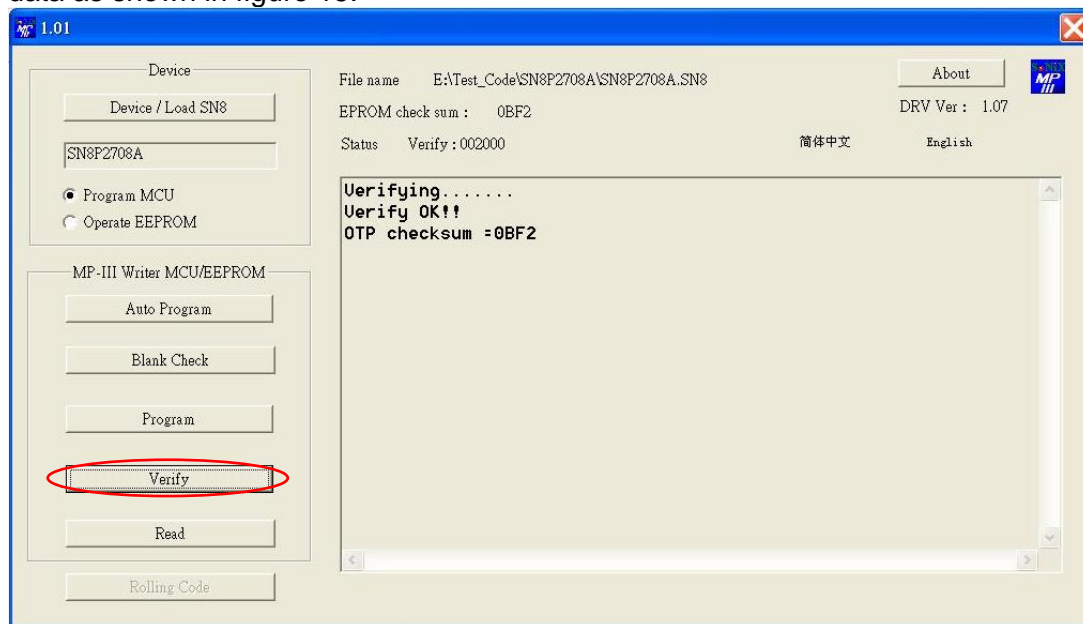
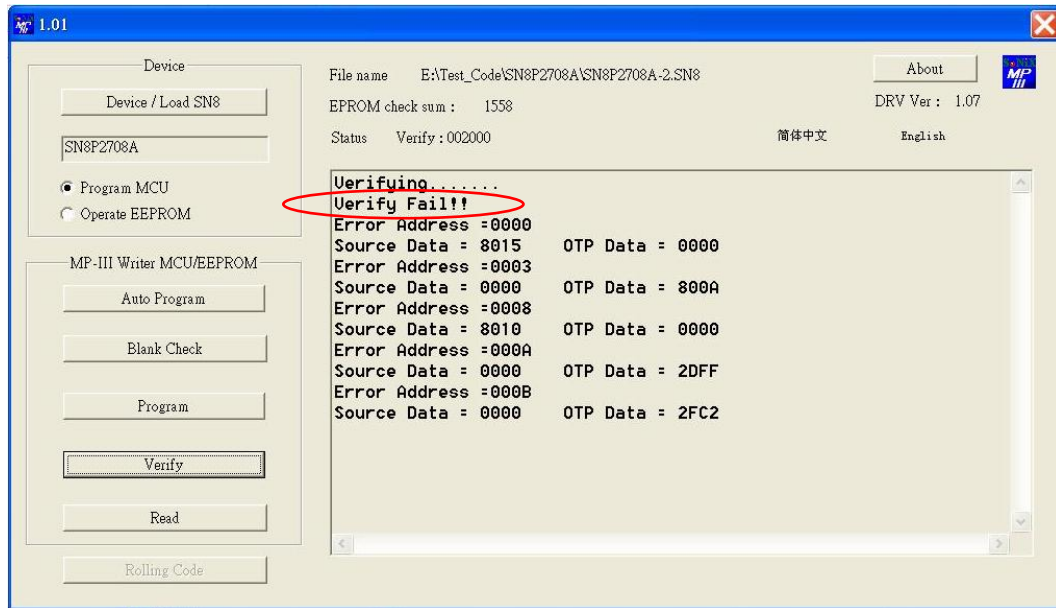

Figure 14 Verification, data correct
Figure 15 Verification, data error
- Click "Verify" button, only check whether the code programmed to chip is correct or not, correct data verification is shown in figure 14, error data verification will show error address and error data as shown in figure 15: